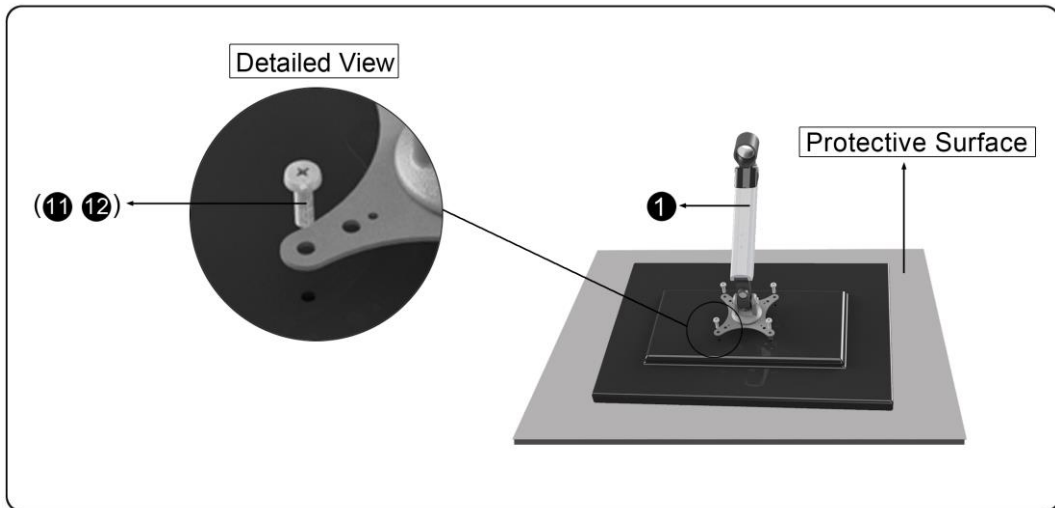

Figure 2-3
3. Determine depth of recessed mounting holes relative to the back of the surface of the monitor and select proper length of Screws (11、 12) or Knobs (20).
4. Place the Gas Spring Arm (1) on the back of the display and align the mounting holes with the VESA bracket. Thread the proper Screws (11、 12) through the VESA bracket and into the back of the monitor (See Figure 2-3)